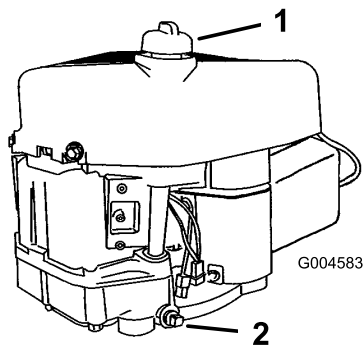

Figure 20
8. Clean around the oil dipstick (Figure 20) so that dirt cannot fall into the fill hole and damage the engine.
11. Slowly pour about 80% of the specified amount of oil into the fill hole (Figure 20). Check the oil level; refer to Checking the Oil Level.